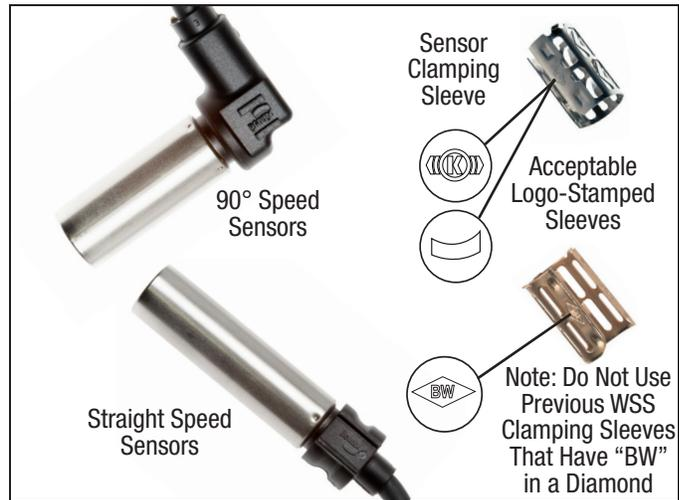

**Figure 4 – Trailer-Mounted ABS Indicator Lamp**
- **Lift Axle Control:** The Bendix® TABS-6™ Advanced Multi-Channel (MC) module can be configured to automatically raise (and lower) lift axle(s) when a pre-configured load is sensed.
- **Trailer Antilock Braking System (ABS) Indicator Lamp:** Controlled by the ECU to show the ABS status, the trailer ABS indicator lamp illuminates when a Diagnostic Trouble Code (DTC) is active. See Figure 4. If there are no ABS DTCs present, when ignition power is applied to the ECU, the lamp will illuminate as a bulb check lasting typically two (2) seconds, up to six (6) seconds at most. If Low Pressure Warning Emergency (LPWE) is active, the ABS indicator lamp will be on until the condition is clear.